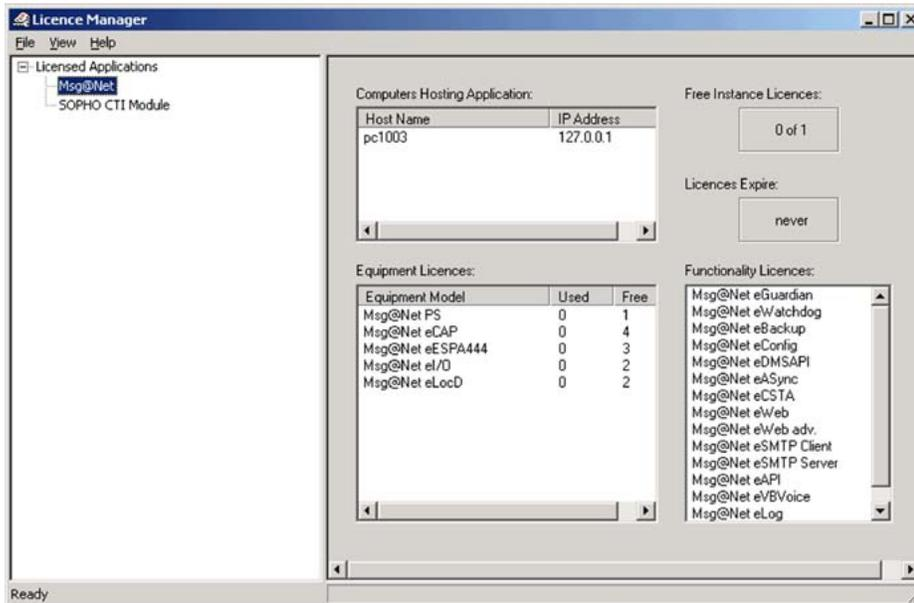

Figure 16: DECT Messenger License Manager
- DECT Messenger License Manager. See Figure 16: DECT Messenger License Manager on page 66.
Figure 16: DECT Messenger License Manager on page 66 shows the License Manager.
Figure 16: DECT Messenger License Manager on page 66 also shows the CTI application as a licensed application. You require this CTI application license only if a connection exists to the DECT system.